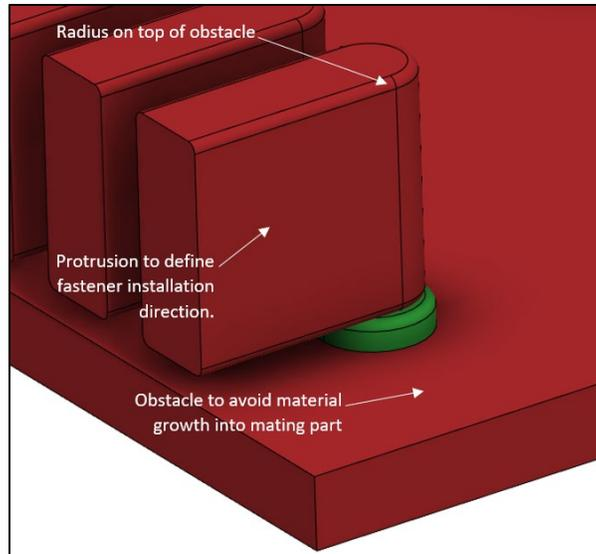

Figure 2-8. Advanced bolt obstacle when material is likely to grow in undesired locations.
- If the bolt **Obstacle** gets completely covered by material growth, the installation direction may need to be specifically defined in the obstacle as shown in Figure 2-8.
Generative Design and Digital Manufacturing can be used to consolidate parts for assemblies holding multiple components. However, clearances to integrate parts should be considered and checked. Visualizing the integration via low-cost plastic AM prototypes or Virtual Reality is recommended. If needed, integration **Obstacles** can be created to allow component installation from a particular direction, similar to the bolt installation **Obstacle** shown in Figure 2-8.